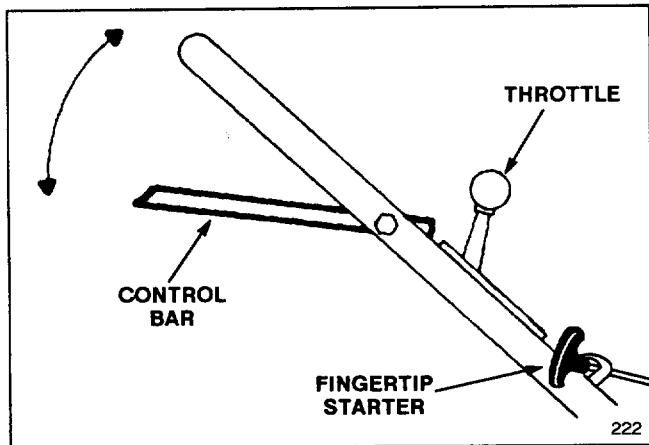

Figure 11
1. CONTROLS—Throttle control, control bar, and fingertip starter are on upper handle (Fig. 11).
3. STARTING—Move throttle to CHOKE. Squeeze control bar against handle. Pull fingertip starter out slowly until positive engagement results; then pull vigorously to start the engine. Regulate throttle as desired when engine starts (Fig. 11).